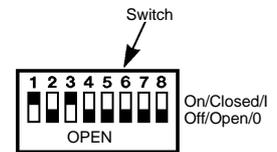

Fig.6
8. Set the controller address on bit switches 1 to 6 and set bit switch 7 to "ON". See fig.6.
Switch settings as shown in Fig. 6.